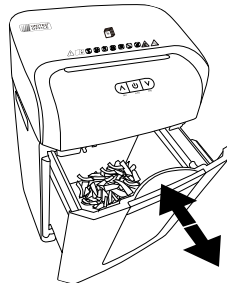

Fig. 4
- ◆ Pull the waste collector **10** by the handle **12** out of the appliance base **7** (see Fig. 4). The LED  **15** flashes blue.
- ◆ Slide the large waste collector **10** all the way back into the appliance base **7** until you hear it click into place (see Fig. 4). The LED  **15** lights up blue.